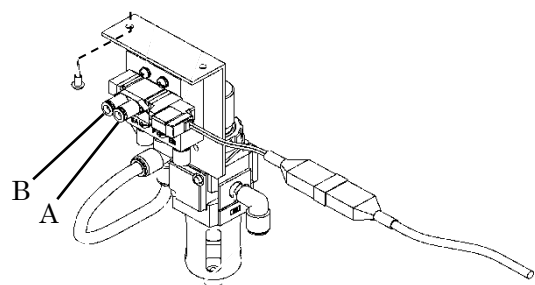

Fig.3
- (1) Please fix with two wood screws provided the pneumatic pressure control unit of sewing machine table underside as shown in Figure 3.